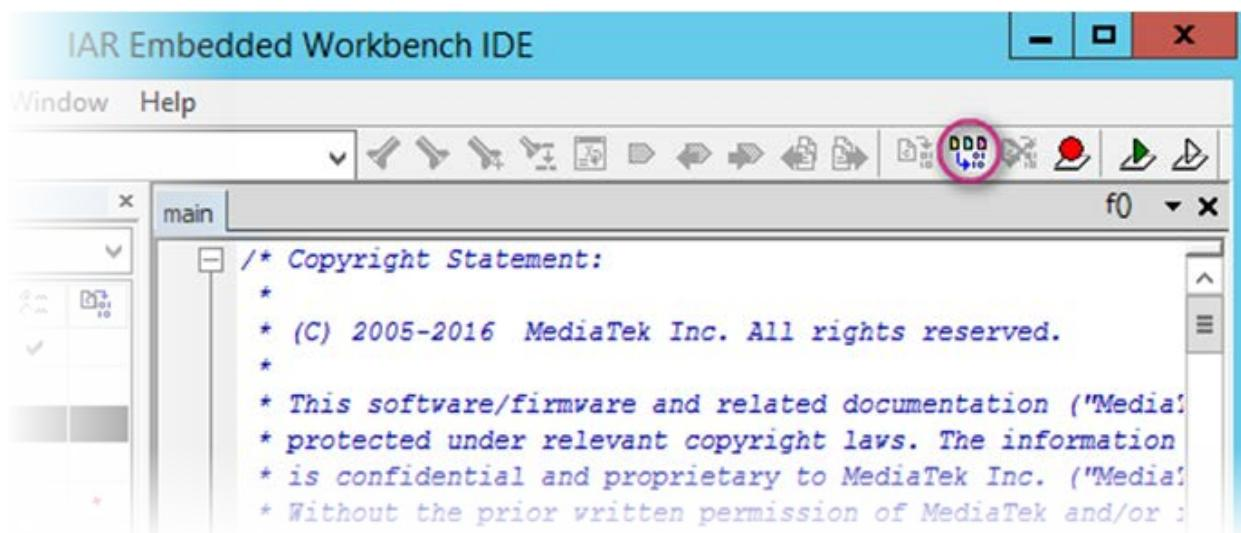

Figure 61. Rebuild the project
- Click **Rebuild** to build the project, as shown in Figure 61.